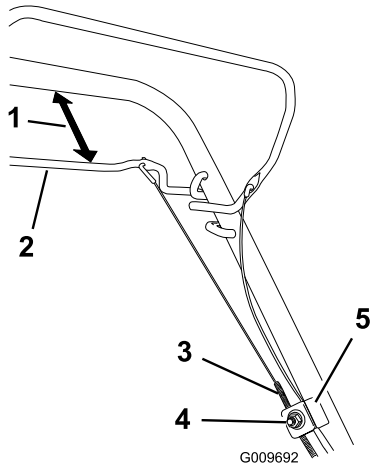

Figure 25
1. Loosen the cable-support nut (Figure 25).
2. Hold the self-propel bail 25 to 38 mm (1 to 1-1/2 inches) from the handle (Figure 25).
3. Pull down the cable jacket (toward the machine) until there is no slack in the cable (Figure 25).